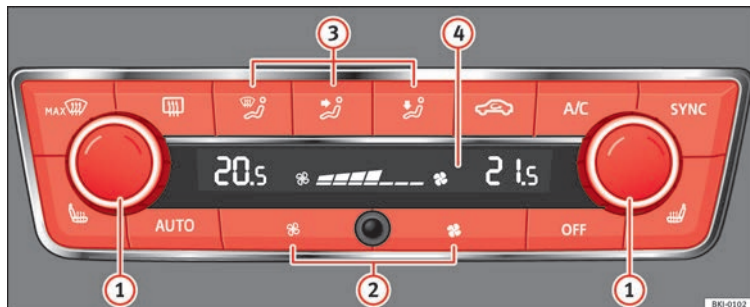

Fig. 169 Climatronic: controls.
- Adjust fan power to zero » Fig. 169 ② or press the **OFF** button.
- Press the button **AUTO** » Fig. 169.
- When you switch on the ignition, control **1** » **Fig. 169** can be used to set the required interior temperature.
- Press the button **MAX** » **Fig. 169**.